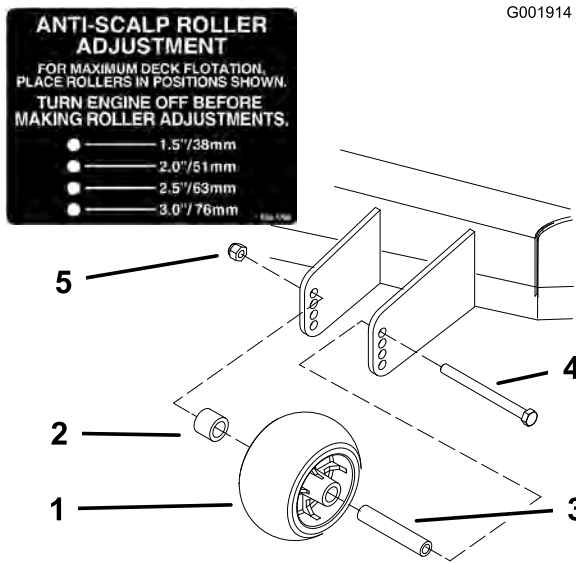
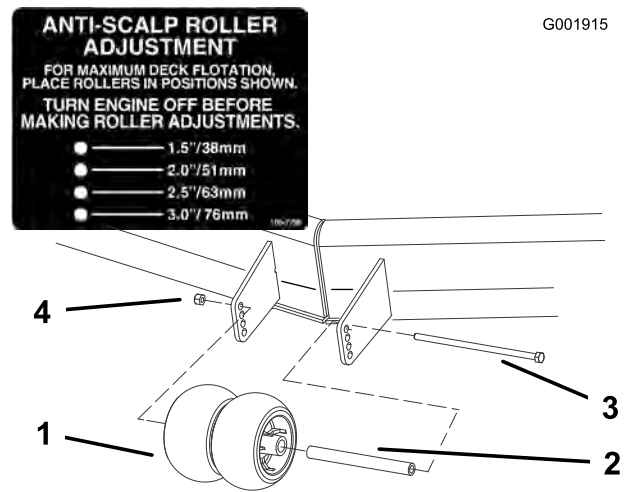

Figure 19
Figure 20
- After adjusting the height-of-cut, adjust the rollers by removing the flange nut, bushing, spacer, and bolt (Figure 19 , Figure 20 and Figure 45).
Note: The two middle rollers will not have a spacer (Figure 20).
- Install the flange nut bushing, spacer, and bolt. Torque to 40-45 ft-lb (54-61 N•m) (Figure 19 , Figure 20 and Figure 45).